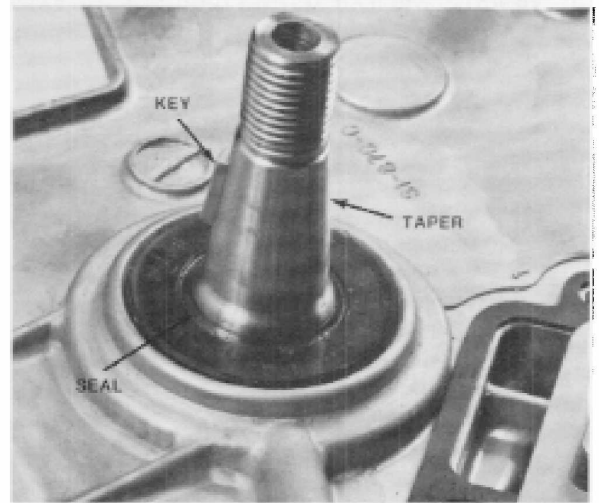

Figure 4-7
5. Examine the condition of the flywheel taper, keyway and crankshaft key and taper. See Fig. 4-7.